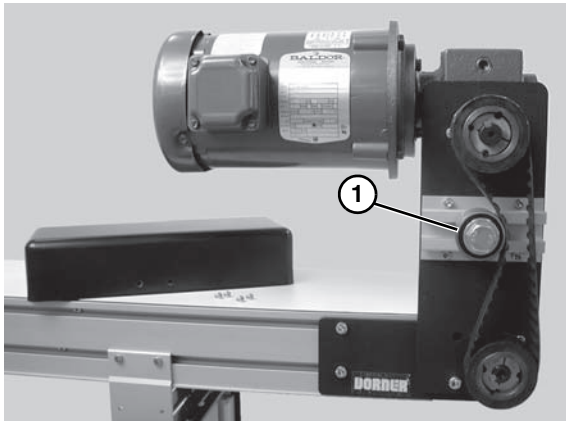

Figure 12
2. Loosen tensioner (**Figure 12, item 1**).
3. Loosen tensioner (**Figure 12, item 1**).